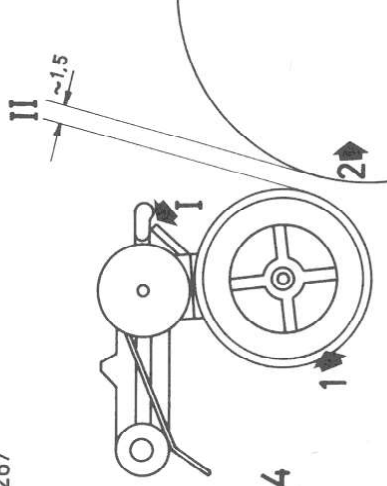

Fig. 4
- When the function control is depressed, the procedure at point "I" must correspond to Fig. 4.